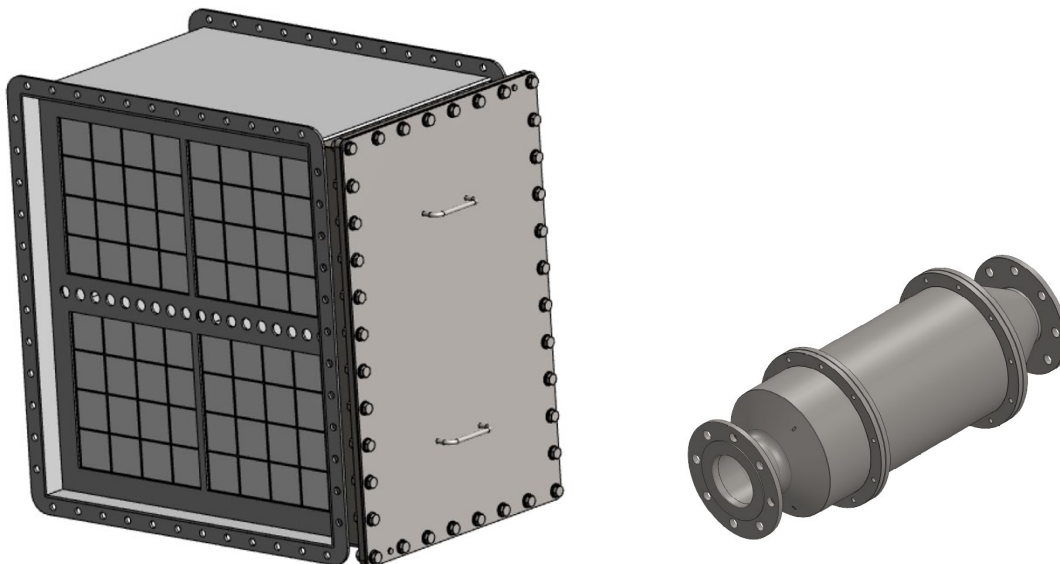

Figure 1: Shows the a squared 2x2 ExiBlock system (to the left) and the ExiLencer™ Mini (to the right)
1. The inlet section ("1" in figure 1)
2. The DPF section ("2" in figure 1)
3. The NO₂/NO_x reduction section ("3" in figure 1) - Optional
The system needs to be installed in right direction. Figure 1 presents the process flow of the exhaust gas with 1 being the inlet and 4 being the outlet. The exhaust gas flows from the engine through the diffusor (1), and the exhaust gas distributes evenly across the whole of the first section.